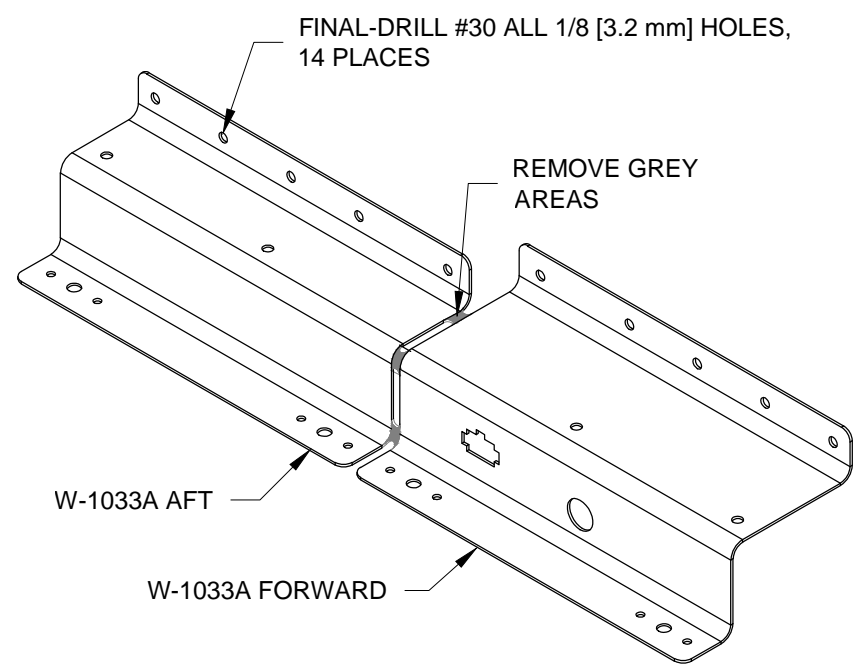

FIGURE 1: AILERON TRIM BRACKETS
In Figure 1 the dimension "7/8 [22.2mm]" S.B. "3/4 [19.1mm]"
Step 1: Separate and label the W-1033A Aileron Trim Mounting Brackets as shown in Figure 1.